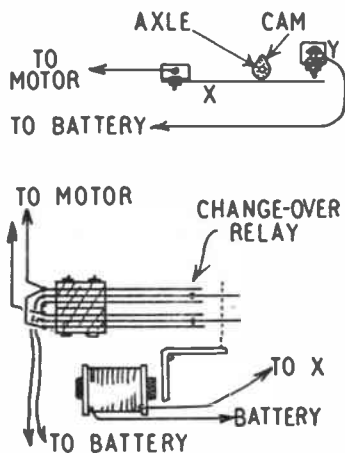

Fig. 3—Stop and reverse circuits
The motor circuit is completed through the thin spring strip (X) in Fig. 3, which bears upon the contact screw (Y). The cam is so positioned that in one straight ahead position of the rudder, it lifts the strip (X) from the screw (Y), thus stopping the propeller
Permanent magnet motors can be reversed by changing the battery polarity, and this effect can be used to sail the model backwards, at will. To avoid having several contacts directly operated by the cam, a change-over or reversing relay may be wired as in Fig. 3. When no current flows through the relay, the model sails ahead. When the relay is energised, the double-pole contacts change over the polarity of supply to the motor, reversing it. The
If half-speed running is required, the cam (C) can open the contacts at one straight ahead position, so that the resistance comes into circuit in series with the motor. Or the cam (D) can switch in the reversing relay mentioned, for sailing astern. Duplicated positions of the rudder can be used for 'stop' or other circuits, the 'stop' circuit being as in Fig. 3.